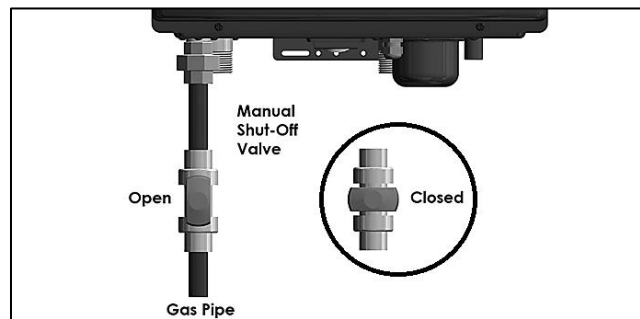

Figure 18 – Gas Line with Shut-Off Valve Detail
4. A manual gas shut-off valve should be installed in the gas supply line close to the appliance. See Figure 18 for detail.